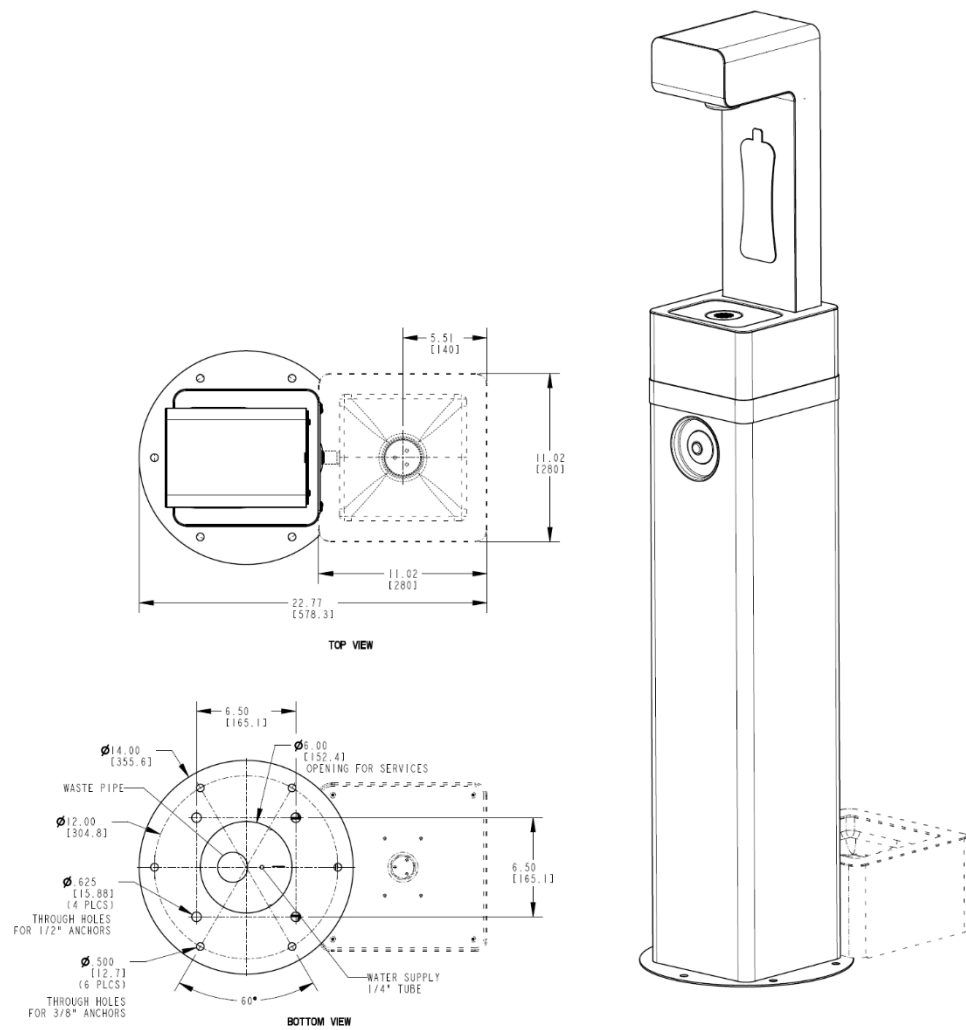

Fig. 8 – Rough-in drawing (Sheet 2)
3. Install whole unit to the ground using 3/8" (6 places) or 1/2" anchors (4 places). See Fig.8 for reference. Anchors are not included. This bottle filler is to be mounted on a smooth, flat, finished surface with adequate support structure. Oasis can provide optional anchor assembly that can be delivered together with the unit. For easy access to the filter (optional) place the unit at least 400 mm away from the wall.